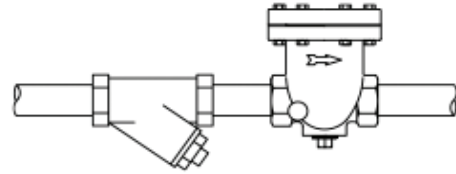

Figure 3. TA Series Industrial Traps have either vertical or horizontal outlets. Pipe plug is for draining if there is danger of freeze-up.
8. Install an Emerson strainer, a dirt pocket or both, close to trap inlet. See Figures 3, 4 and 5.